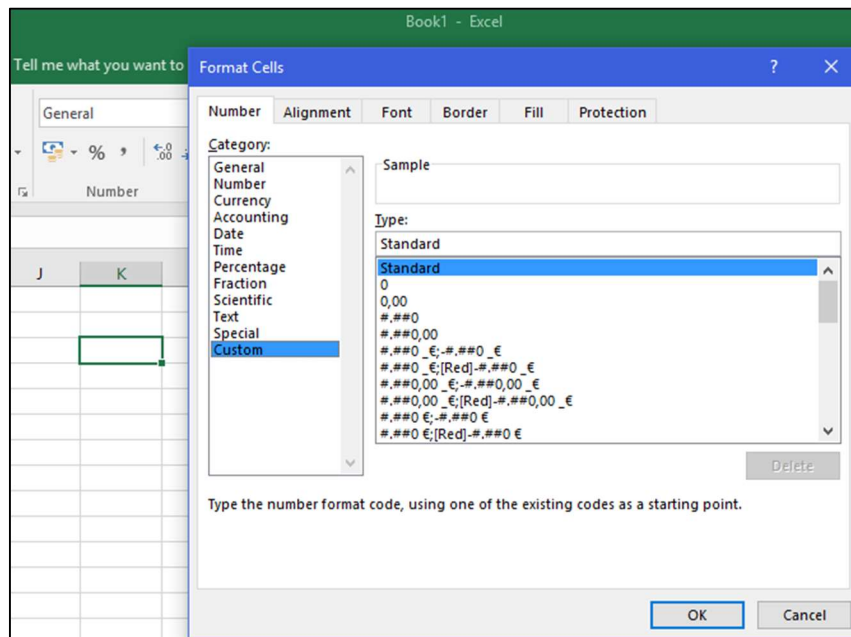

Fig. 206: Custom cell formatting in Microsoft Excel
- ➔ The notation of the format appears next to the **Format** field, depending on the format selected. If you select **Custom**, you can freely define the format (see Fig. 206).